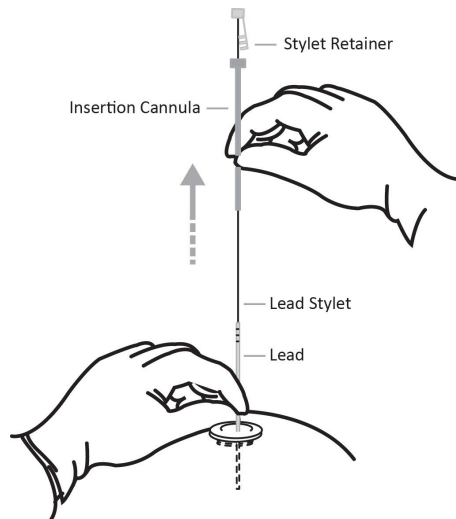

Figure 8: Removal of the insertion cannula, stylet, and stylet retainer from the lead.
3. Gently pull the insertion cannula up over the lead (Figure 8 on page 29) while stabilizing the lead at the burr hole to avoid lead migration.